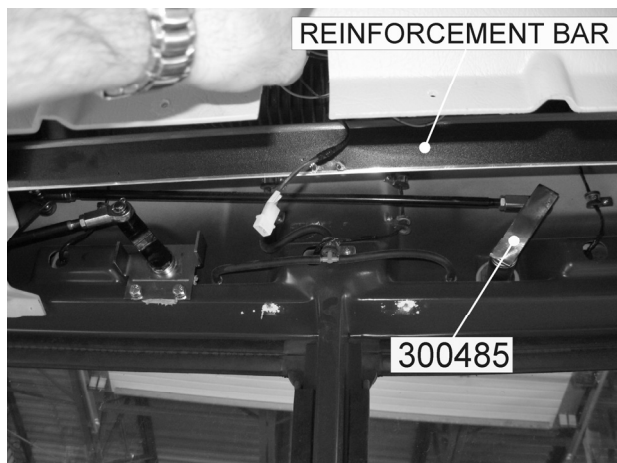

FIGURE 3
5. Move front central finishing panel away in order to access R.H. drive crank (curbside) (300485) (Fig. 3).
6. Remove reinforcement bar fixing rivets then push bar aside (Figure 3).